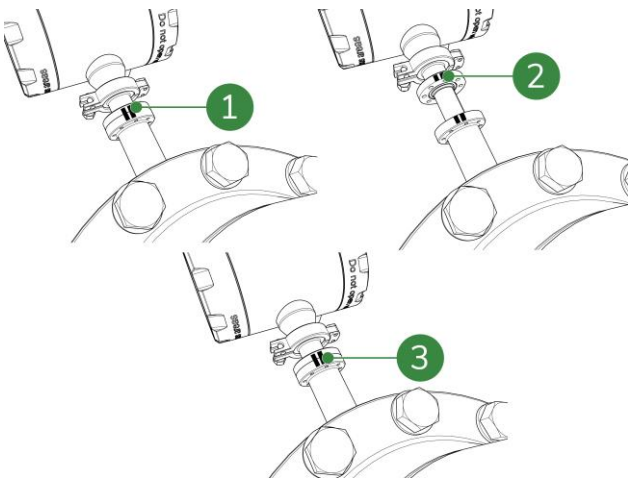

Figure 8-17: Sensor position markings
10. Place back the sensor in the exact same position (Figure 8-17, pos. 3).